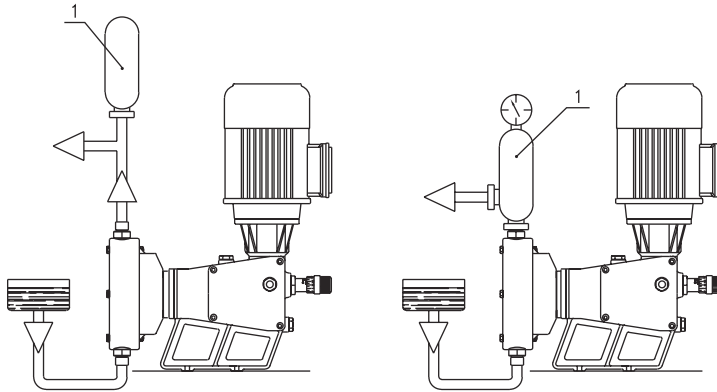

Fig. 5 - Layout of Pulsation Dampener
5.3.3 Pulsation Dampener. (Ref.1 - Fig.5)